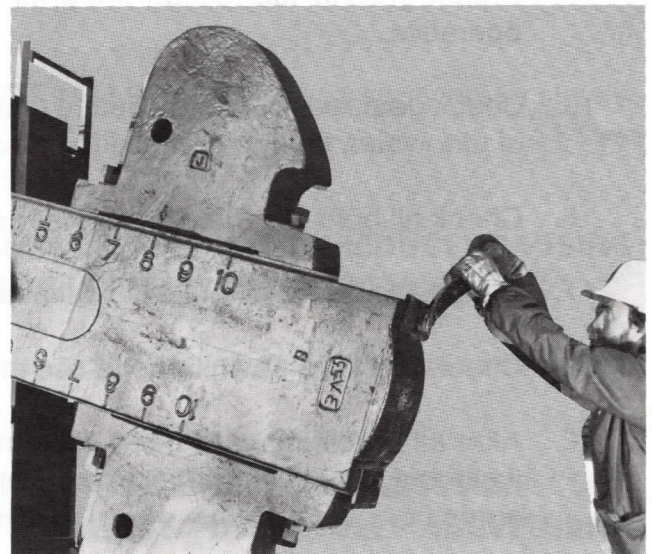

Fig. 24
1. Shut down prime mover and slowly apply brake to stop cranks positioned slightly below horizontal if counterbalance is to be increased, and slightly above horizontal if it is to be decreased. The cranks should incline so that counterweight movement will be downhill Fig. 24.